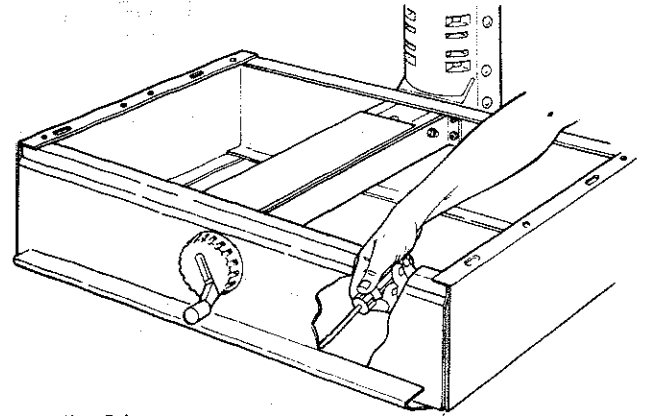

Fig. 21
2. Reach through the top of the *saw* and use four screws to fasten the *trim ledge* in place. Tighten using a Phillips screwdriver. (Figures 21 & 22)